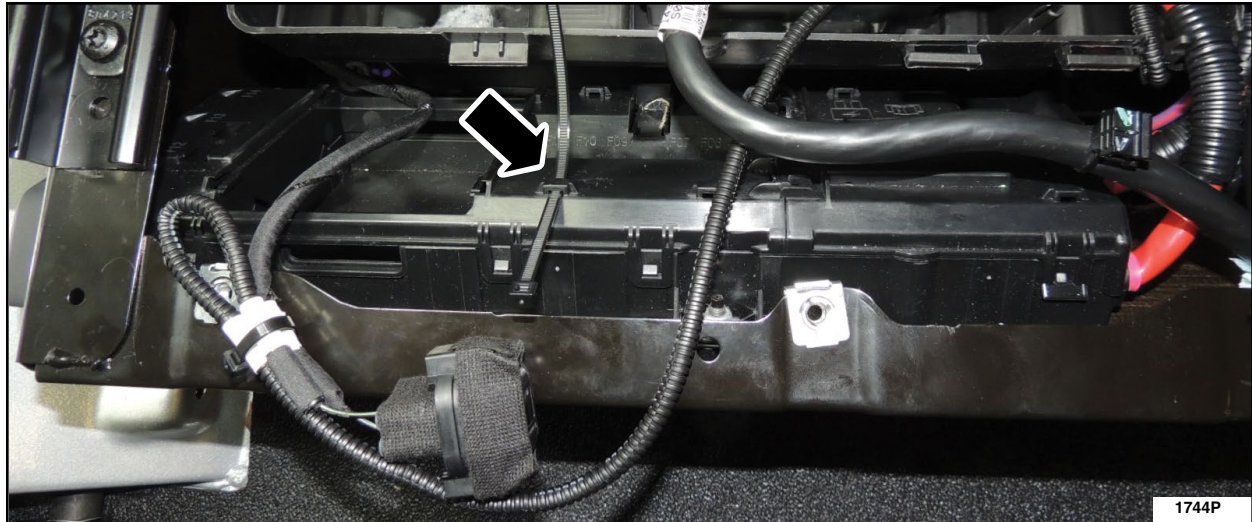

FIGURE 19
3. Place a tie-strap (component F) through the outboard upper hold down slot on the auxiliary fuse panel cover. See Figure 19.